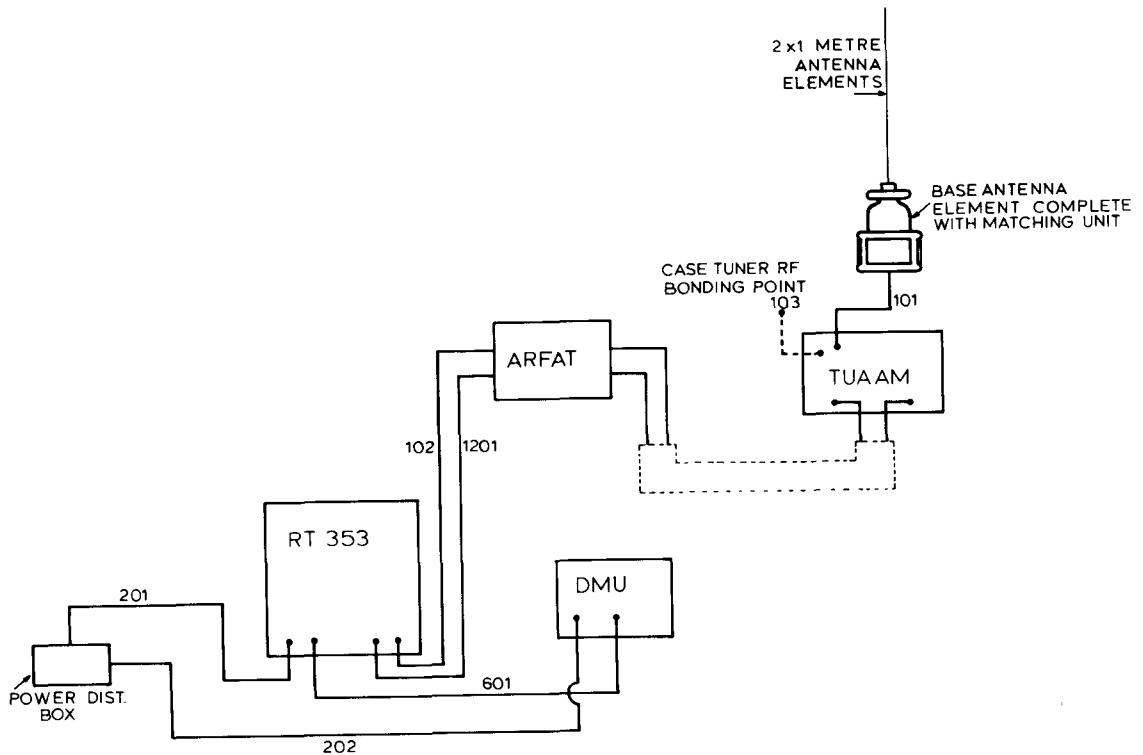

Fig. 8 Block schematic
2.4 A block schematic diagram is given in fig. 8. All connections at the wing-mounted equipment should have been made as detailed in supplement 3. All other connections should be made as detailed below. Clips for securing the cables to the equipment rack are stowed in linen bags attached to the cable assemblies, power, electrical (5995-99-637-9887).